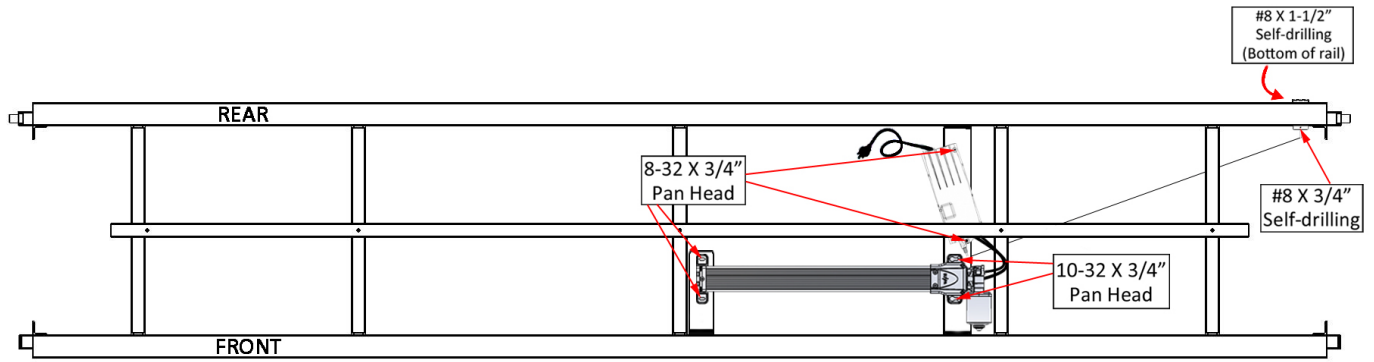

Fig. 3
4. Install hydraulic pump, control module and switch onto mounting brackets. Connect AC power cord and switch wire to control module. (Fig. 3)